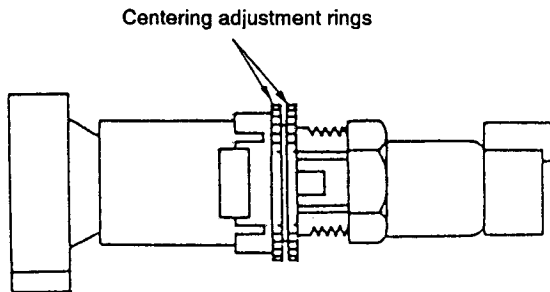

Fig. 7-1-22.
- 1) Turn the centering adjustment rings to provide an image with even right, left, upper and lower margins. (See Fig. 7-1-22.)